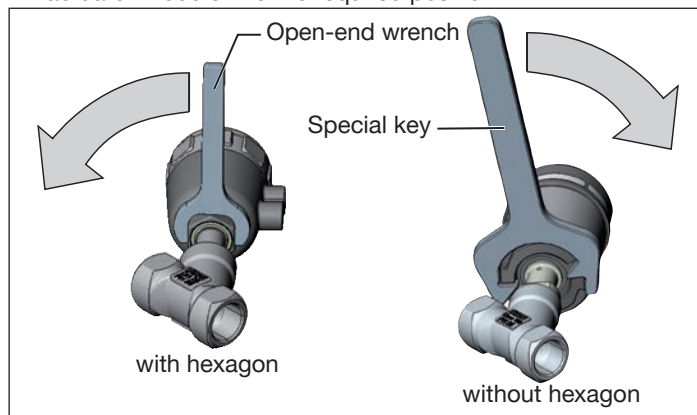

Fig. 15: Rotating with special key / open-end wrench
- ▶ Rotate the actuator module in the specified direction only (see "Fig. 15").